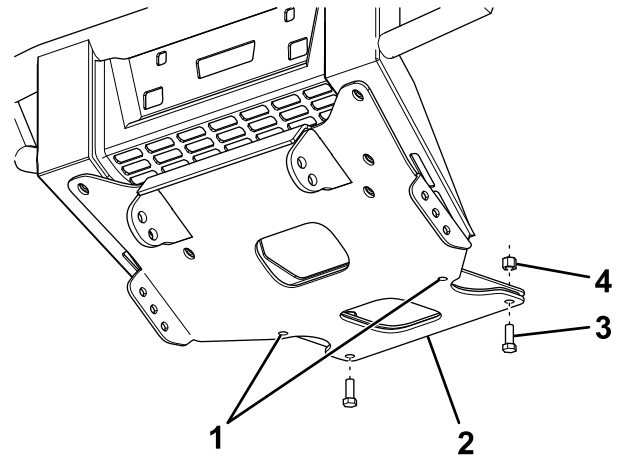

Figure 1
3. Align the undercarriage skidplate with the vehicle front bumper and loosely secure it using the previously removed fasteners (Figure 1).
4. Loosely secure the rear of the undercarriage skidplate to the vehicle using 2 bolts (3/8 inch) and locknuts (Figure 1).